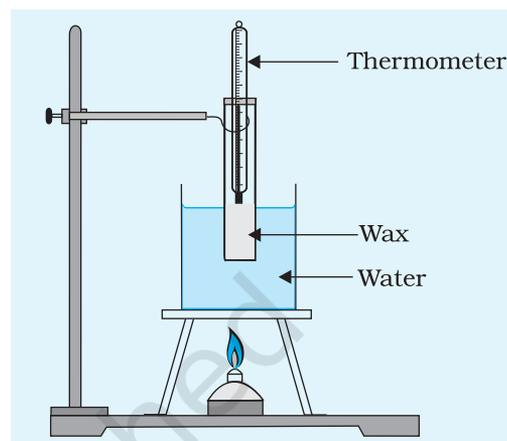

Fig. A 8.2: Experimental set up
4. Set up the tripod, burner, heating arrangement as shown in Fig A 8.2.